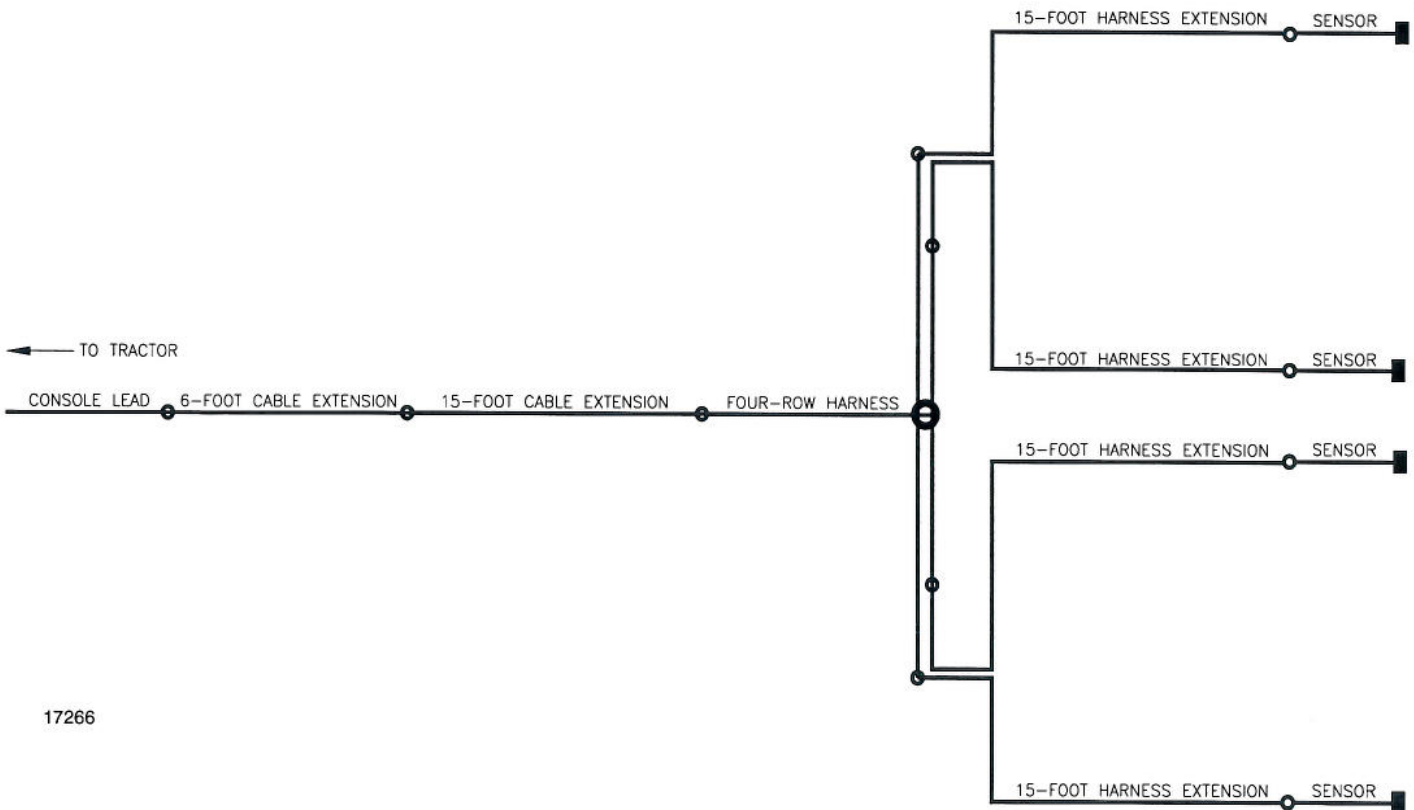
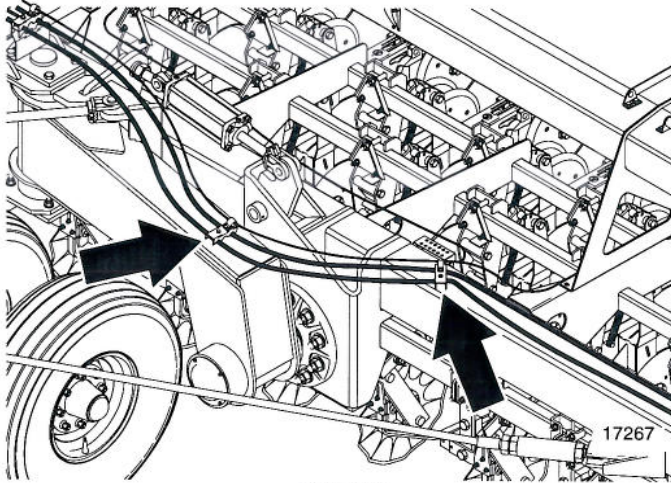

Figure 1
Figure 2
1. Connect the 6-foot and 15-foot cable extensions together. Connect the cable extensions to the four-row harness. Route the cable extensions and harness over the drill tongue and frame as shown in Figure 1 and Figure 2.
- Using the wire clamps provided, secure harness to the hydraulic-hose clamps. See Figure 2. Use cable ties to secure cable and harness to frame. Check that the harness and cable will not be damaged during field operation, folding or transport.